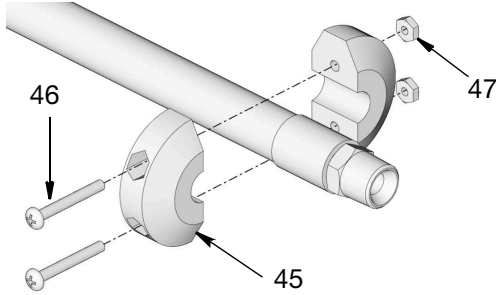

FIG. 14
- Reinstall ball stop and dispensing valve (FIG. 14).
- Remove c-clamp (A).